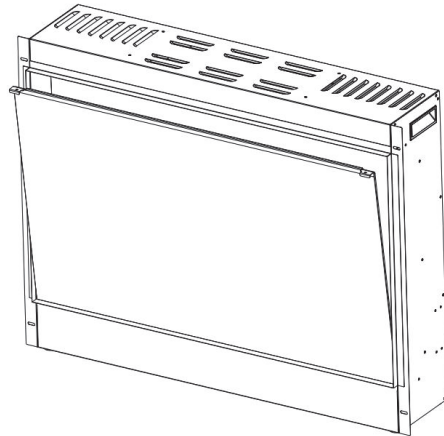

Fig.1-2
2. Tilt the front glass forwards, and have two people to move out the glass panel. Fig.1-2